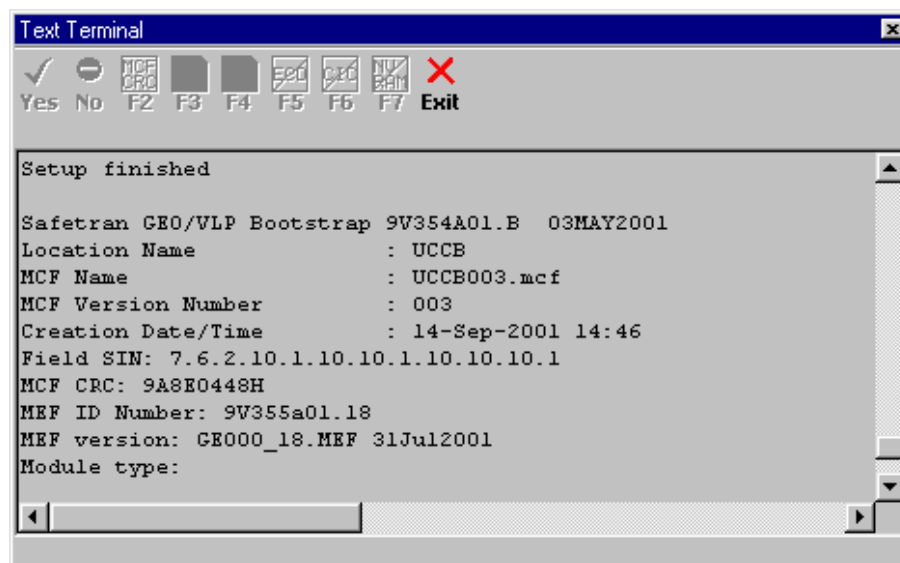

Figure 3-30
7. Select the **Exit** button (F8) to finish setup. The Text Terminal screen displays “Setup Finished” (figure 3-30), and then refreshes to display configuration data followed by the Function Key options.